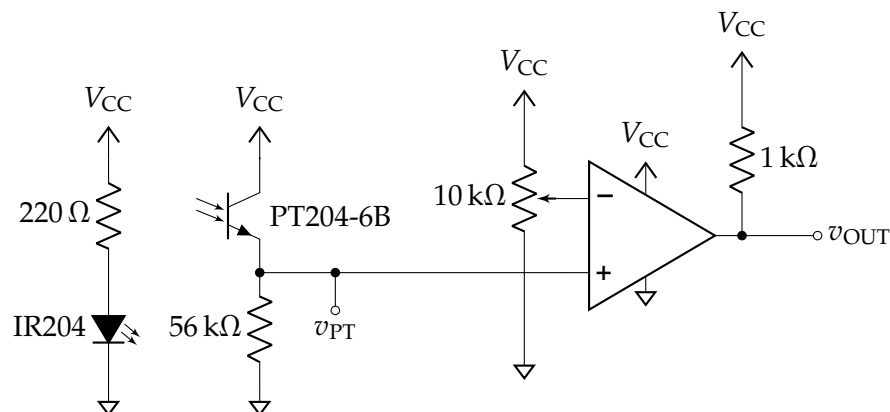

Figure 12.7: Active infrared proximity sensor
1. *Build* the circuit in figure 12.7 using the LM339 or LM393 comparator. Install the phototransistor and infrared LED next to each other on the breadboard and have them point in the same direction.